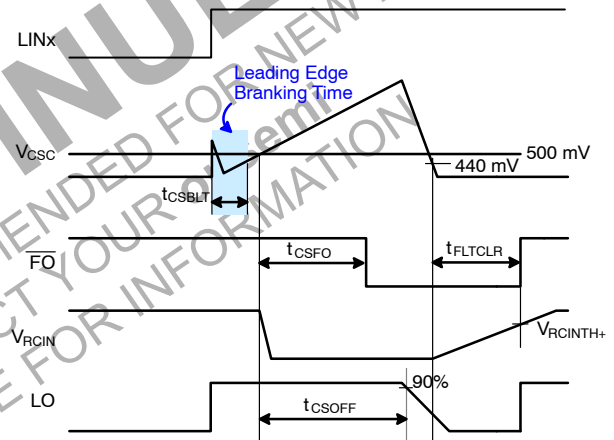

Figure 43. RCIN and Fault-Clear Waveform Definition
Figure 43 shows the waveform definitions of RCIN, $\overline{FO}$, and the low-side driver; which uses a soft turn-off method when an under-voltage condition of the low-side gate driver supply voltage (V_{DD}) or the current-sense pin (CS) recognizes a fault. If a fault condition occurs, the $\overline{FO}$ Pin is internally pulled to COM and all outputs (HO1, 2, 3 and LO1, 2, 3) of the gate driver are turned off. Low-side outputs decline linearly by the internal sink-current source ($I_{SOFT} = 40 \text{ mA}$) for soft turn-off, as shown in Figure 43.